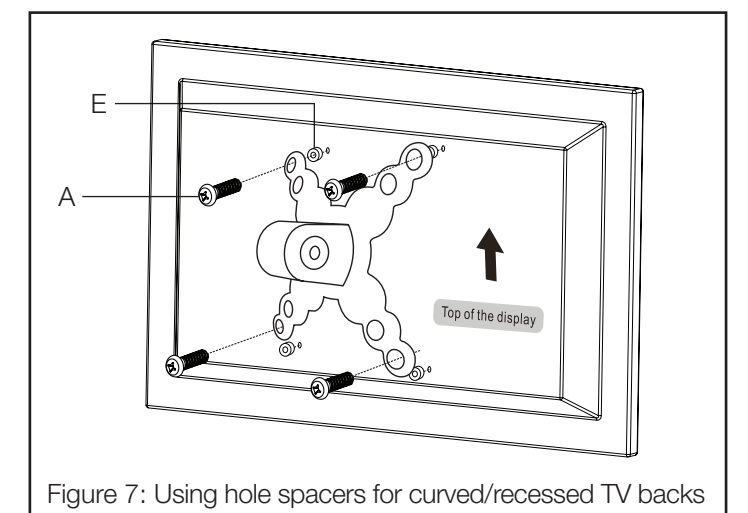

Figure 7: Using hole spacers for curved/recessed TV backs
If the back of your TV is curved or recessed you will need to use a hole spacer (E) to clear the space (see Figure 7). If using spacers you will now need to use longer screws. Remember that the bolt needs to turn at least 3 full turns.